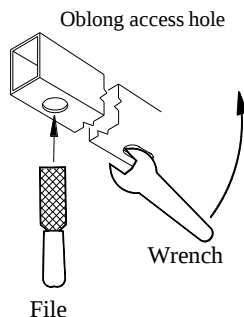

Figure 3
1. Remove appearance panels on both side near the wheel well and covering the frame rails, remove (2) hex nuts (M10 socket) on bottom of the frame rail and (2) hex nuts with a (M5.5 socket) at the bottom of the frame rail. Both sides. Will need to trim or remove once hitch is in place.
3. Feed the coiled end of the pull wire through rearward hole and out the access hole. Attach spacer and carriage bolt onto pull wire and feed the fasteners into location through the hole. Leave pull wires attached. Repeat the same process on the both frame rails. Note: it may be easier to install the carriage bolt head first. Repeat with the forward holes. Both frame rails. Note: carriage bolt tight fit into access hole may be necessary to use a file or wrench to open access hole. See figure 3.